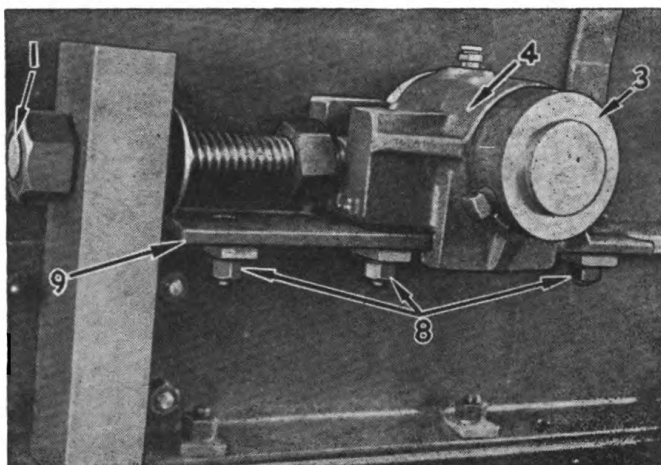

Figure 102. Bucket line chain take-up, operating on the boom head shaft, has Acme screw thread.
This shaft is mounted in two babbitted sliding take-up bearings (4), which are adjustable for bucket chain take-up, by means of screws (1). Collars, (3) are mounted against the bearing hubs both inside and outside. See Figure 102.
Bearings (4), Figure 102 may be dismantled by removing the three bolts (8) in guide bar (9), and take-up screws (1).